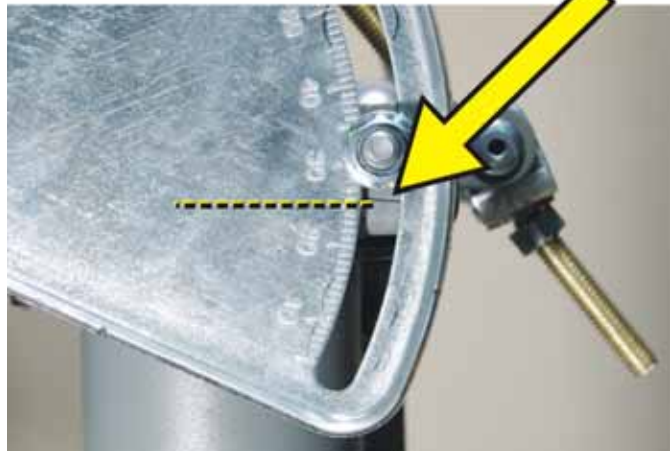

Figure 35: Elevation marker
4. As shown in Figure 35, the black line on the bar behind the lockdown nut acts as a pointer to indicate the value in the elevation scale. For example, the antenna shown in the figure is adjusted to 26°.